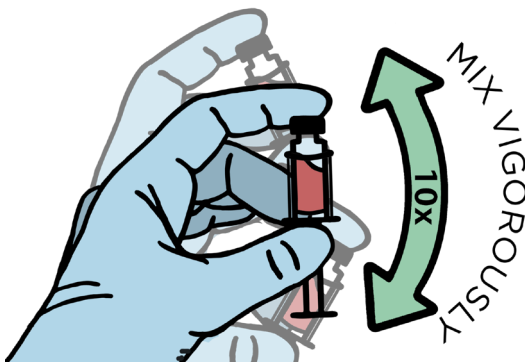

Figure 7. Performance of Step 9 Diluent Vial Mixing.
9. Replace the cap on the Diluent Vial and **vigorously mix** the Diluent Vial 10 times (Figure 7) to resuspend the solution prior to insertion into the Cartridge for testing.